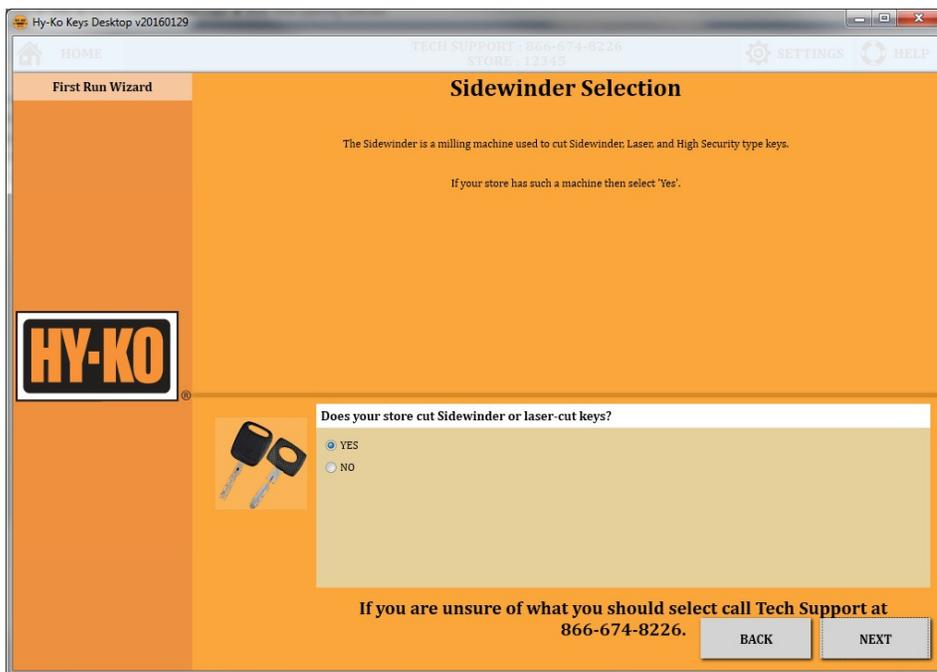

fig. 8
- Choose whether or not your store cuts sidewinder keys then click **'NEXT'** (see fig. 8).